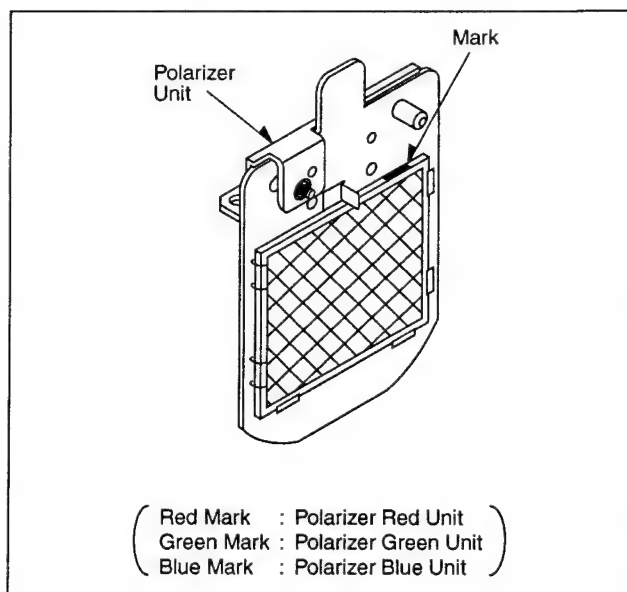

Fig. O3
2. Make sure of the Mark colour to distinguish the Polarizer Unit (Red, Green, Blue) as shown in Fig. O3.